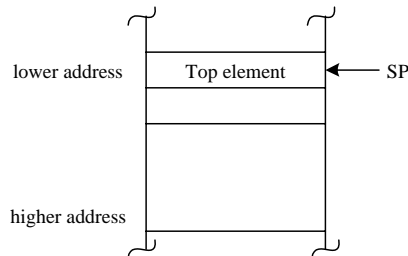

Figure 1.4 ■ 68HC12 stack structure
Stack pointer (SP). A stack is a first-in-first-out data structure. The 68HC12 has a 16-bit stack pointer that points to the top byte of the stack (shown in Figure 1.4). The stack grows toward lower addresses. The use of stack will be discussed in Chapter 4.